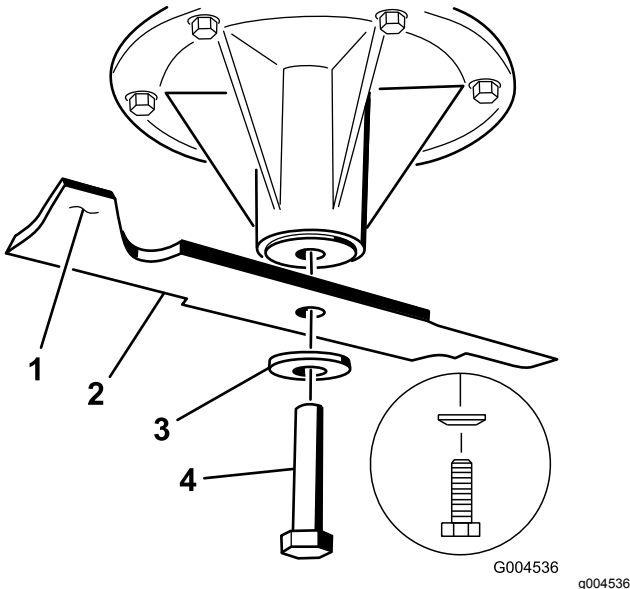

Figure 80
2. Remove the blade bolt, curved washer, and blade from the spindle shaft (Figure 80).